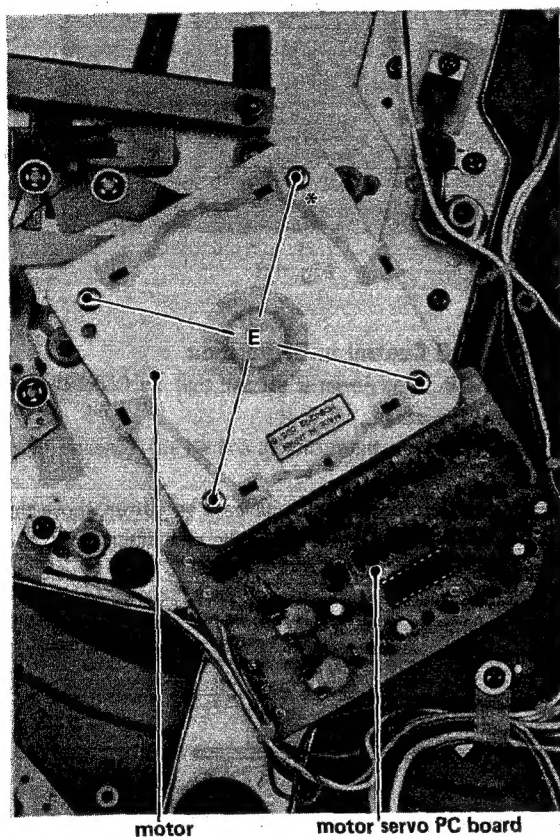

Fig. 3-5
2. Remove the motor by unscrewing the four screws (E). (See Fig. 3-5.)